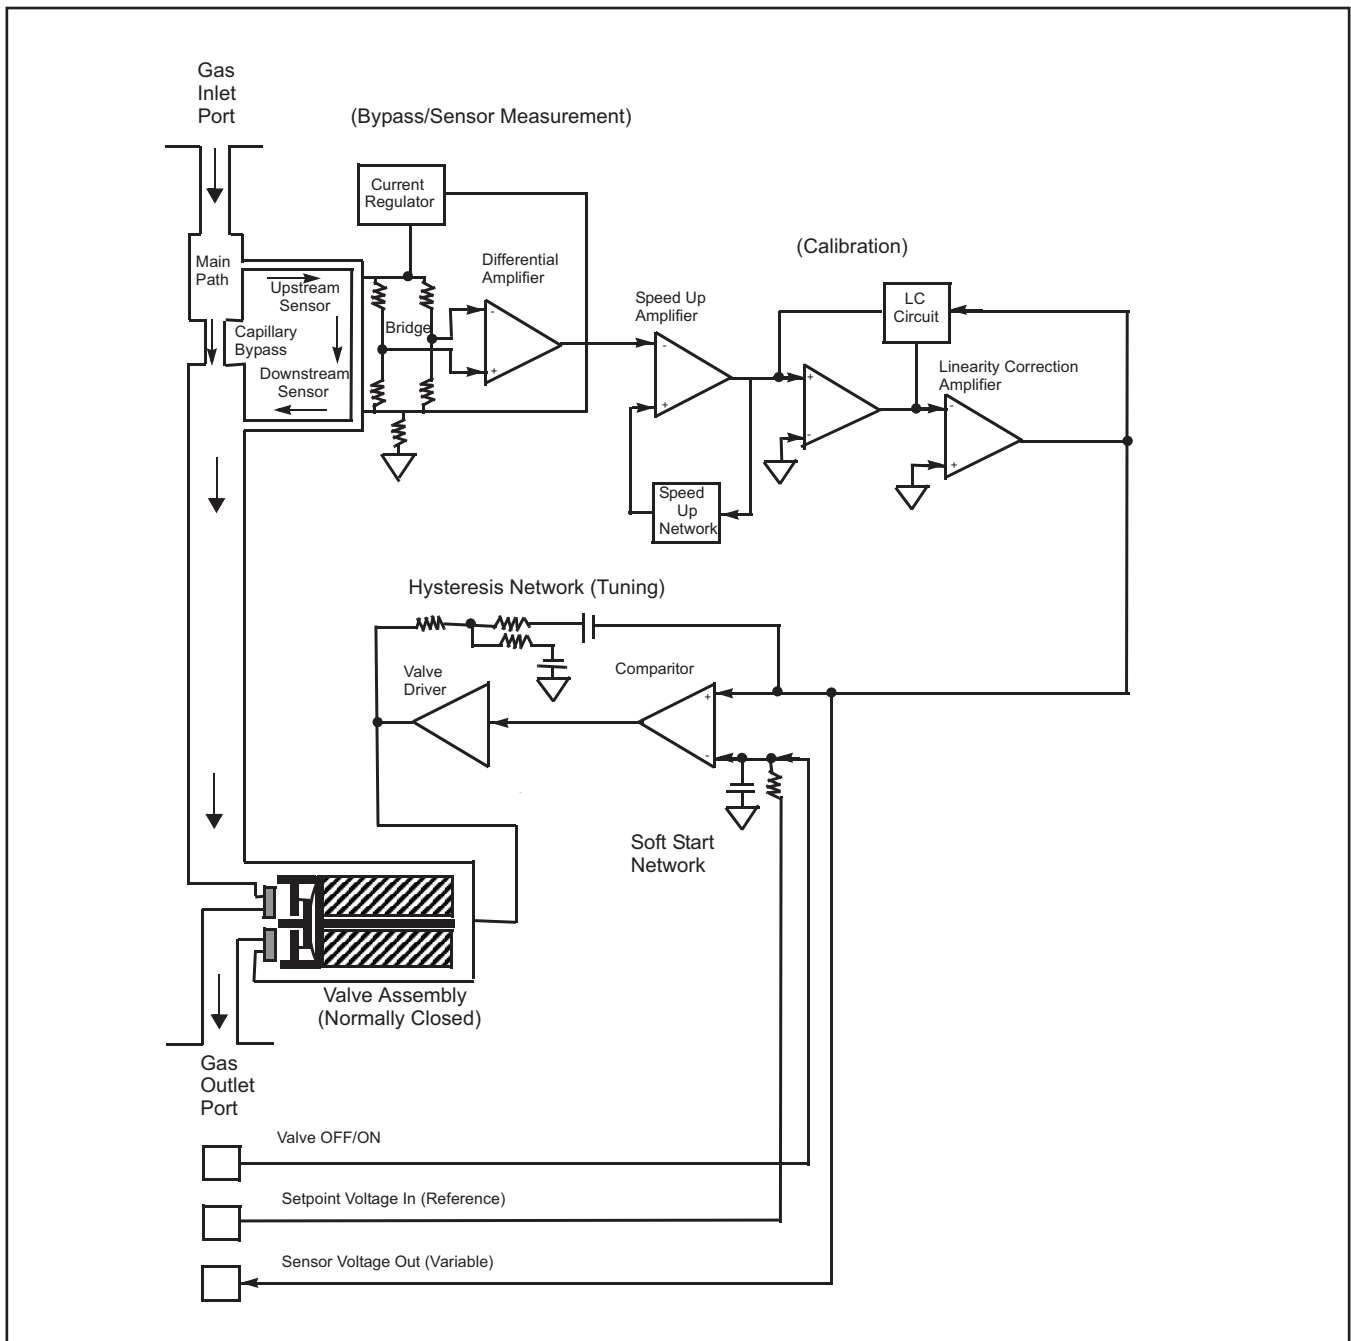

Figure 2-6 MFC Theory of Operation Block Diagram
PCB Assembly (5)	Electronic circuitry, which stores bypass/sensor information, and also provides the ability to fine tune the MFC in order to achieve proper flow and response times. Refer to Figure 2-1, MFC Components, above, and to Figure 2-6, MFC Theory of Operation Block Diagram, on p. 2-5 for details.
MFC theory of operation is described in greater detail in Figure 2-6, MFC Theory of Operation Block Diagram, below.